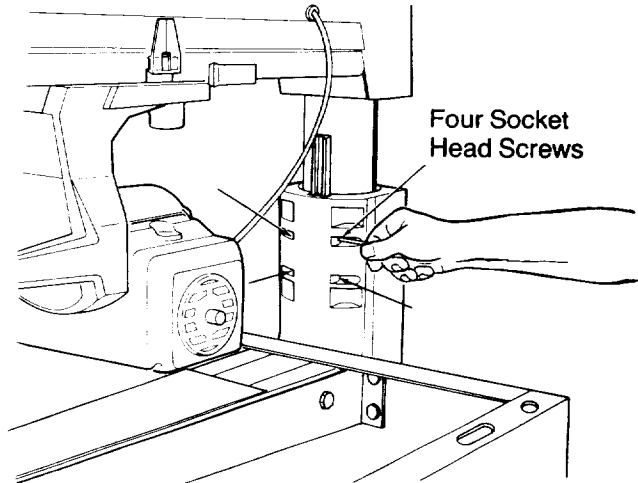

Fig. 35
1. Use a 3/16 hex "L" wrench to loosen the four screws in the front of the *column support*. (Figure 35)